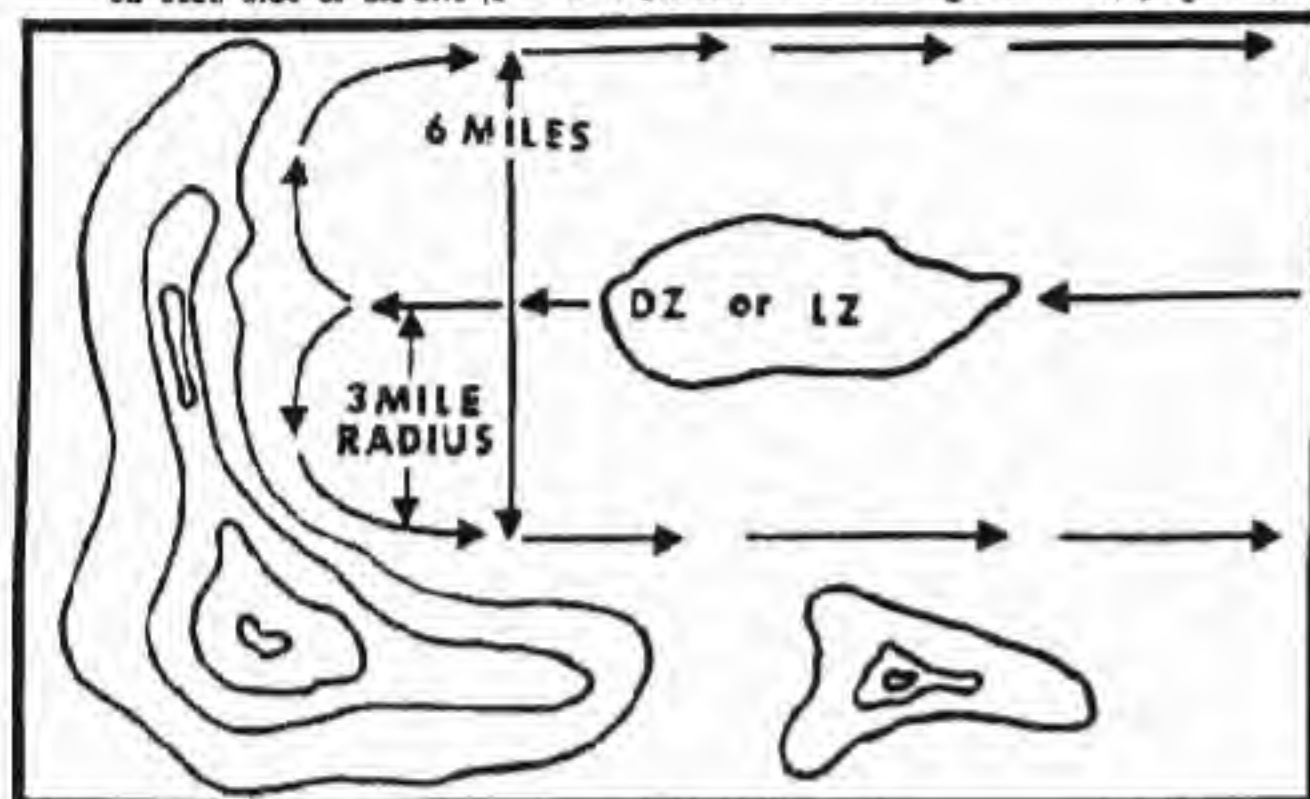

Figure 1
(f) DZ's having a single clear line of approach are acceptable for medium aircraft, provided: (1) a level turning radius of 3 miles (5 kilometers) on each side of the site (1.5 or 1.3 kilometers for light aircraft) (Figure 1).